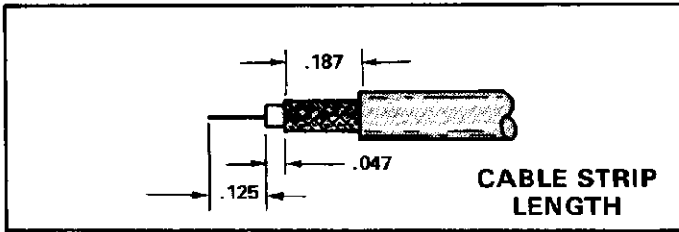

Fig. 3
1. Strip cable to dimensions shown in Figure 3.